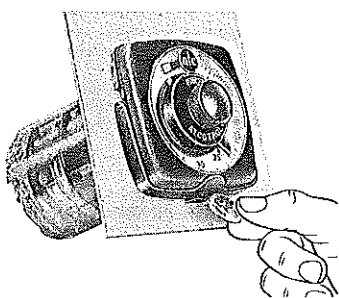
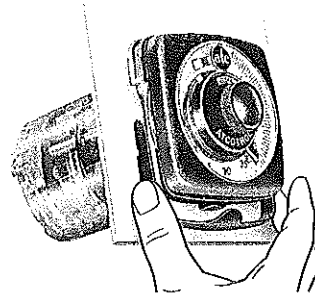

Fig. 1.
Fig. 3
5. To secure timer, push bail handle up and out about 1/2 inch (Fig. 3) then insert between bottom of timer face and back up plate tab just below timer face. Snap into locked position (as in Fig. 1).
- Fig. 1 Check rear of timer and remove cotter-pin safety clip if one is used. With a coin or screw driver, spring open the bail handle.
- Fig. 3 Drop the bail handle with a downward motion to free the area around the timer face.